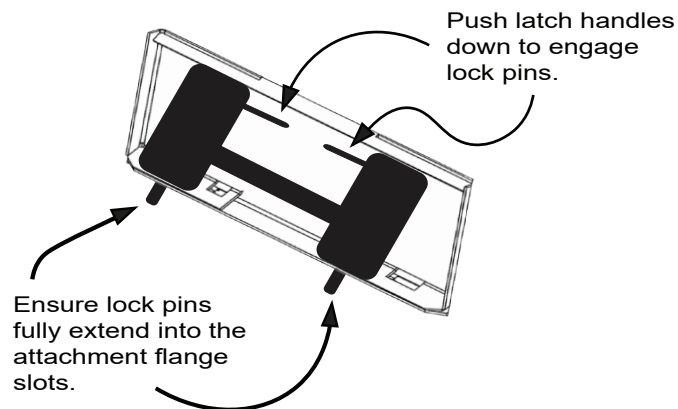

FIGURE 3.1B QUICK ATTACH COUPLER LOCKED TO ATTACHMENT BRACKET
4. Activate your skid steer's lever lock switch to lock the pins into the attachment bracket. If your skid steer does not have this switch, manually lock the pins as shown in Figure 3.1b below.